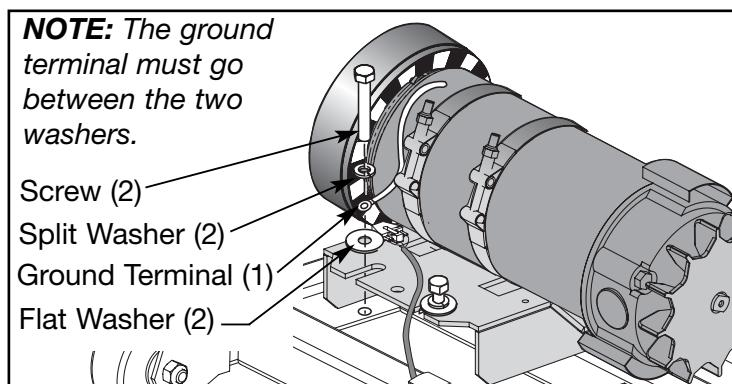

Figure 17
B. Place the flat washer on the motor saddle followed by the ground terminal, split washer and screw. See Figure 17.